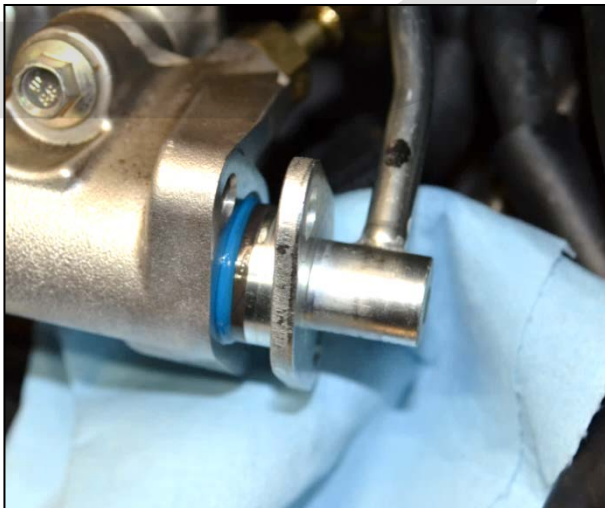

Figure 6d
d) Remove the high pressure fuel line from the fuel rail. Pull the end out far enough to empty the fuel rail. Shown in Figure 6d.